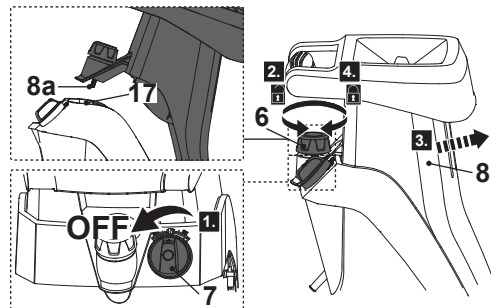

Fig. 11
1. Turn the on/off switch (7) anti-clockwise to switch the product off (Fig. 11, step 1). Wait until the shredding means stop rotating completely.
2. Remove the collection bag (5) from the hooks (3c) of the main unit (3). Empty the collection bag (5), if needed.
3. Loosen the locking knob (6) anti-clockwise (Fig. 11, step 2) and open the cover (8).
4. Lift the cover (8) from the main unit (3) to remove it (Fig. 11, step 3).
5. Carefully remove the jammed material from the discharge chute (20).
6. Refit the cover (8) and tighten the locking knob (6) clockwise (Fig. 11, step 4). Ensure the interlocking device (8a) properly seats in the safety key slot (17).
7. Turn the on/off switch (7) clockwise to switch the product on.